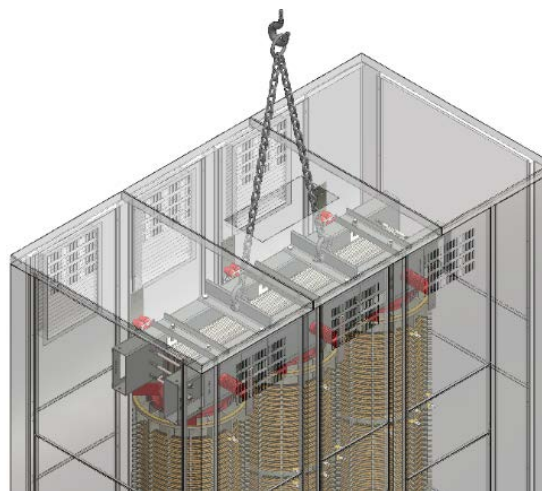

Figure 4: Lifting Chains Connected to Transformer Lifting Bracket.
2. Connect lifting chains to all the lifting points on the lifting brackets installed on the top core clamps. Smaller units are supplied with two lifting points, and larger units are supplied with four. See Figure 4.